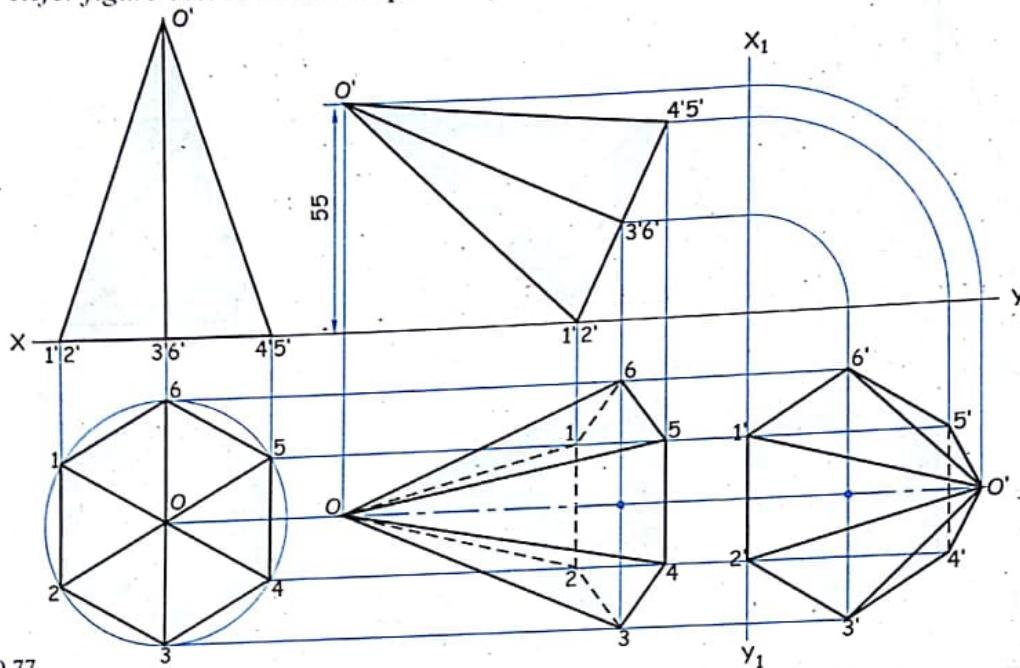

FIG. 10.77
**Solution :** Refer figure 10.77. It is self explanatory.